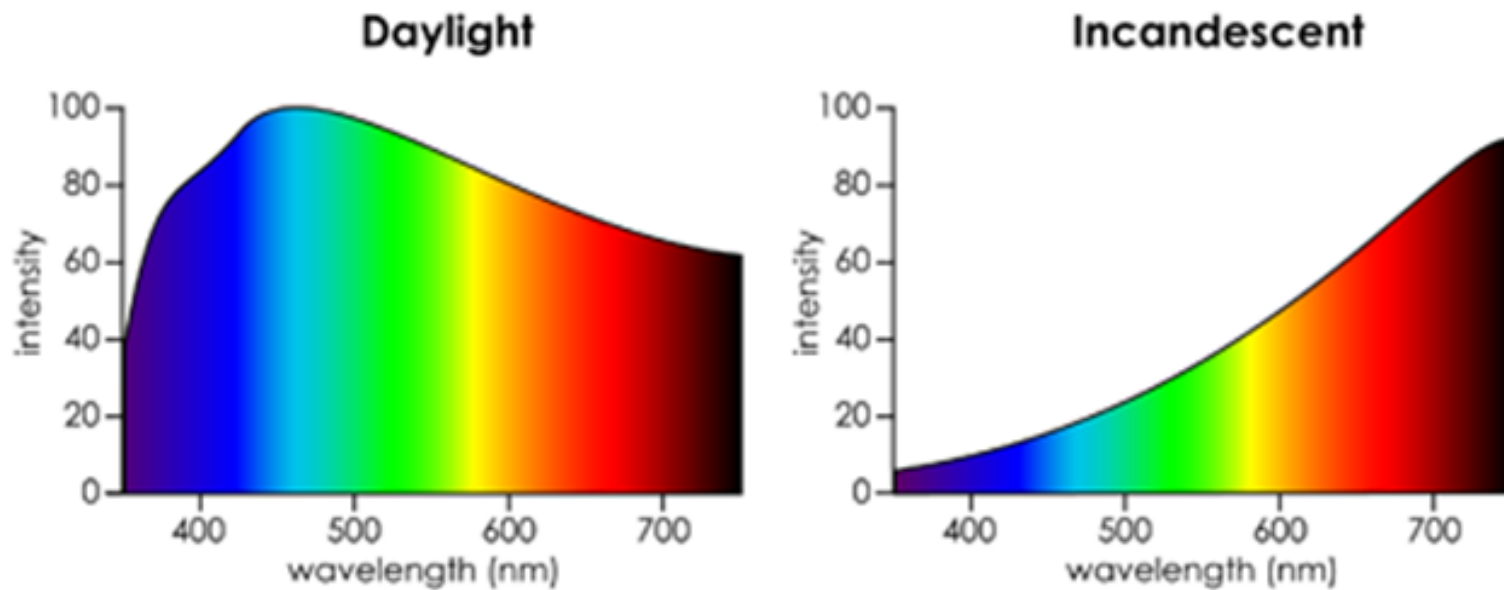

Fig. F-7-2-2
- **Light Colour:** Depends on the operating temperature of the lamp. The hotter the filament, the closer to white the light will be. Light output is broad spectrum (mainly red) giving a close representation of daylight. (See **Fig F-7-2-2** for comparison with natural daylight)